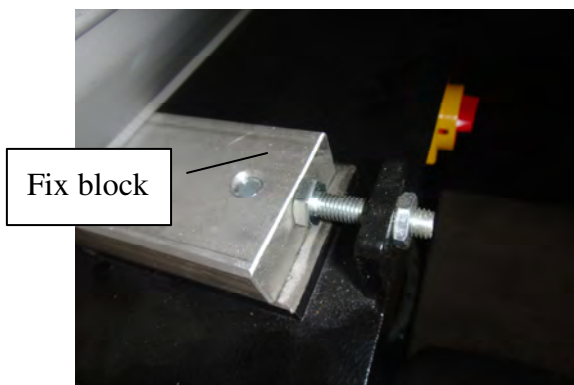

Figure 3-3.1a
2. Position the fix blocks on 2 sides set points as Fig. 3-3.1a